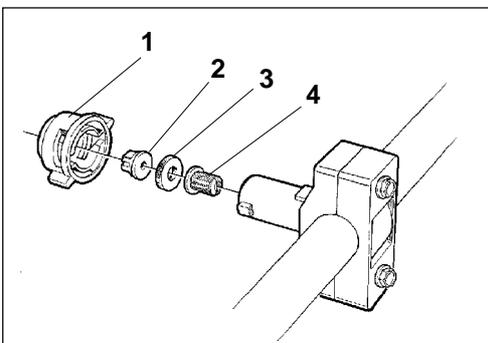

Fig. 10 Nozzle
Make sure the sprinkler nozzles (1) are not clogged. Clean the nozzles as required, and the water filter that is located adjacent to the water pump, see fig. 10 and 11 below.